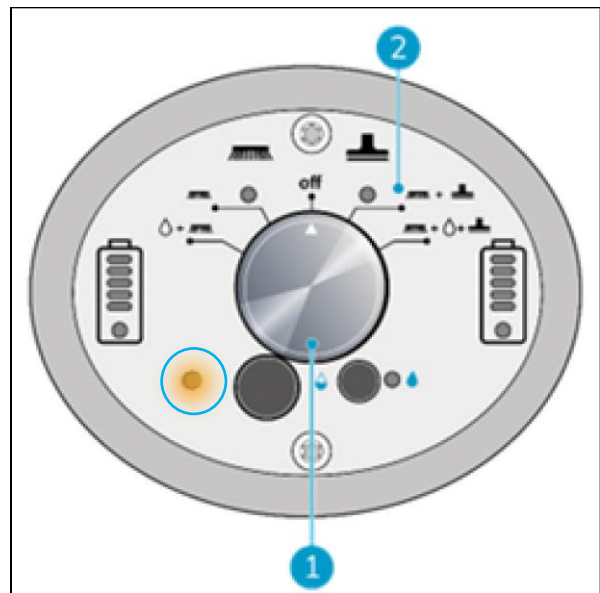

Figure 23
1. The angle warning indicator will flash at the blue circled area as soon the operator will go below 32 degrees. The indicator light will turn on and the water recovery will be paused. When the handle is raised above 32 degrees the vac motor will restart after 5 seconds. (figure 23)